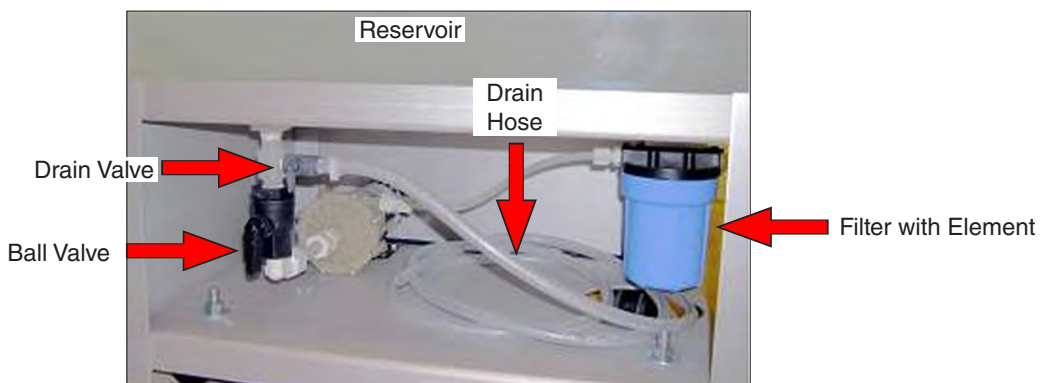

Figure 5.9j: Cart side panel removed to access Dual Spray drain valve and drain hose.
- The Dual Spray system has a fluid drain hose at the bottom of the reservoir (Figure 5.9j).